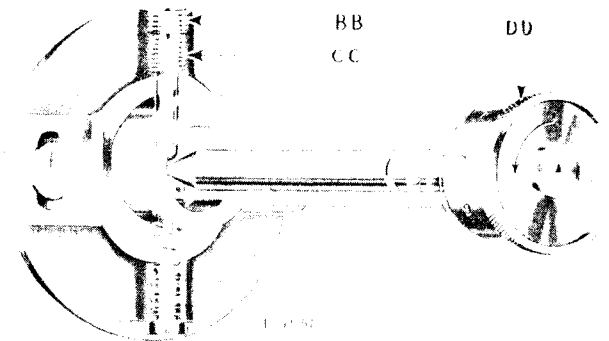

Fig. 22. "X-Ray" View of Feed Driving Eccentric
The figures on the feed regulating spindle (DD, Fig. 22), showing through the notch in the balance wheel, indicate the number of
stitches to the inch which should be made. If more or less stitches are made, adjust as follows: Remove screw (BB, Fig. 22), set the indicator at 2 1/2 and the feed dog at its highest point, a full tooth showing above the throat plate, then adjust screw (CC, Fig. 22) until 2 1/2 stitches to the inch is the result and replace check screw (BB) firmly.
TO SET THE FEED REGULATOR SO THAT A STITCH LONGER THAN THE ONE DESIRED CANNOT BE MADE. Turn the feed regulating spindle (DD, Fig. 22) as far as possible in the direction indicated by the arrow in Fig. 22; remove check screw (BB) and adjust screw (CC) until the machine makes the desired number of stitches to the inch, then turn screw (BB) down tightly on screw (CC) as a check. The stitches may then be changed by turning the feed regulating spindle (DD) for shorter stitches, but operators cannot make a longer stitch than that limited by the above adjustment.